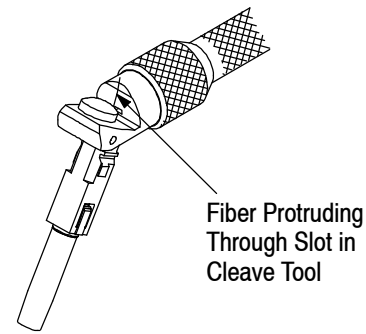

Figure 11
1. Insert the plug assembly into the cleave tool so that the protruding fiber is guided through the slot in the tool. See Figure 11.